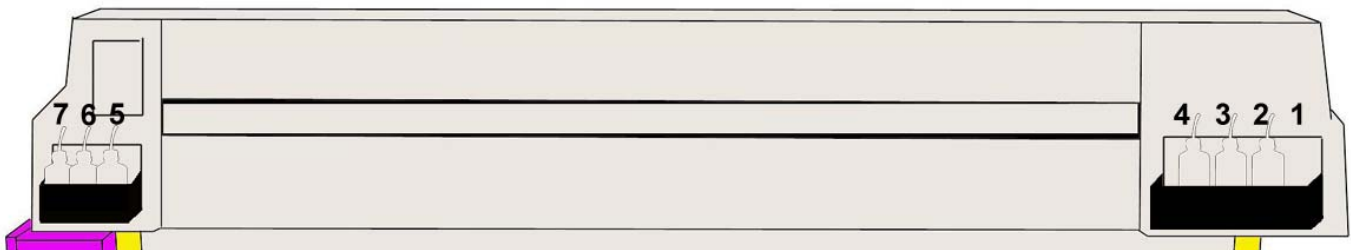

Figure 1: Ink order diagram (View from back of DPS 52)
The DPS control panel is located on the right side of the printer. Figure 1 outlines the various controls. The panel controls the nozzle dryer (air and heat) and the infrared (IR) heater. The automatic shut-off/turn-on feature is also controlled on this panel.